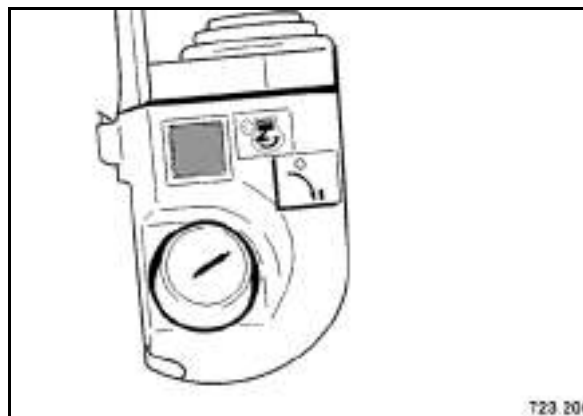

Fig. 67
- Press the start button to start the engine (Fig. 67).